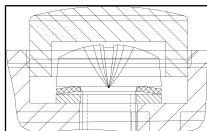

Fig. 8: Alignment of disk springs
- i** For the arrangement of the spring washers (7) and washer (8) as well as the alignment of the spring washers, see Fig. 8.
11. Mount the screw covers (5).